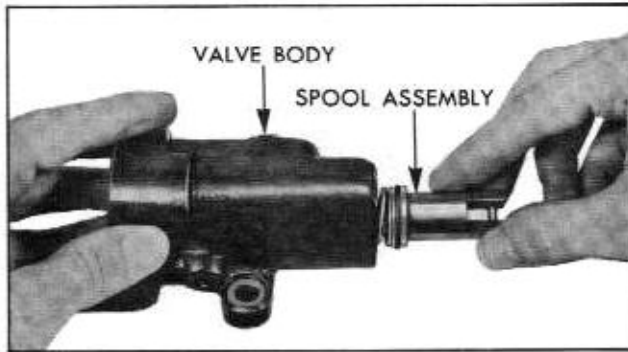

Fig. 9-57 Spool Assembly Started in Valve Body
1. Carefully insert spool valve assembly into valve body. The spool and valve body are selective fits and have very little clearance. Only if properly started can spool be assembled (Fig. 9-57). NOTE: Do not attempt to force spool assembly into valve body.